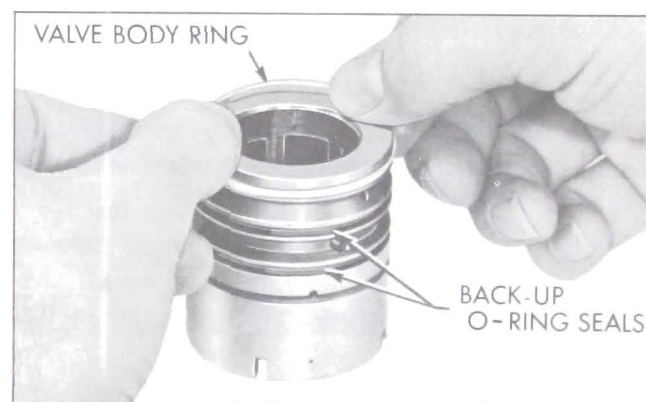

Figure 8-38—Installing Valve Body Rings
1. If removed from valve body, lubricate three new ring back-up O-ring seals in automatic transmission oil and assemble in the three ring grooves on the valve body. Assemble three new valve body rings in the ring grooves over the O-ring seals by carefully slipping over the valve body. See Figure 8-38.